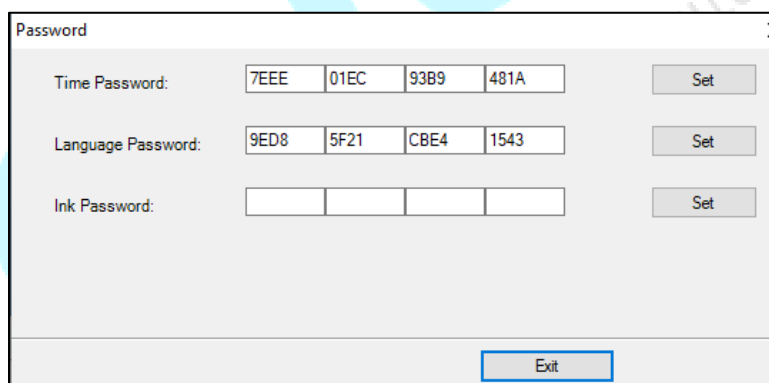

Fig 34: Displaying the Password Window
Step 2: Set the time password (Refer to Fig 34).
Step 3: After feeding the time password, click on the **Set** button to set the password (Refer to Fig 34).
Step 4: Now the time password gets set, click on the **Exit** button to close the window (Refer to Fig 34).
- Password Screen (Refer to Fig 34)